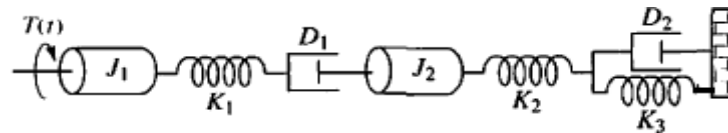

Figure 7
- 5A. Write, but do not solve, the equations of motion for the translational mechanical system shown in Figure 7. 4